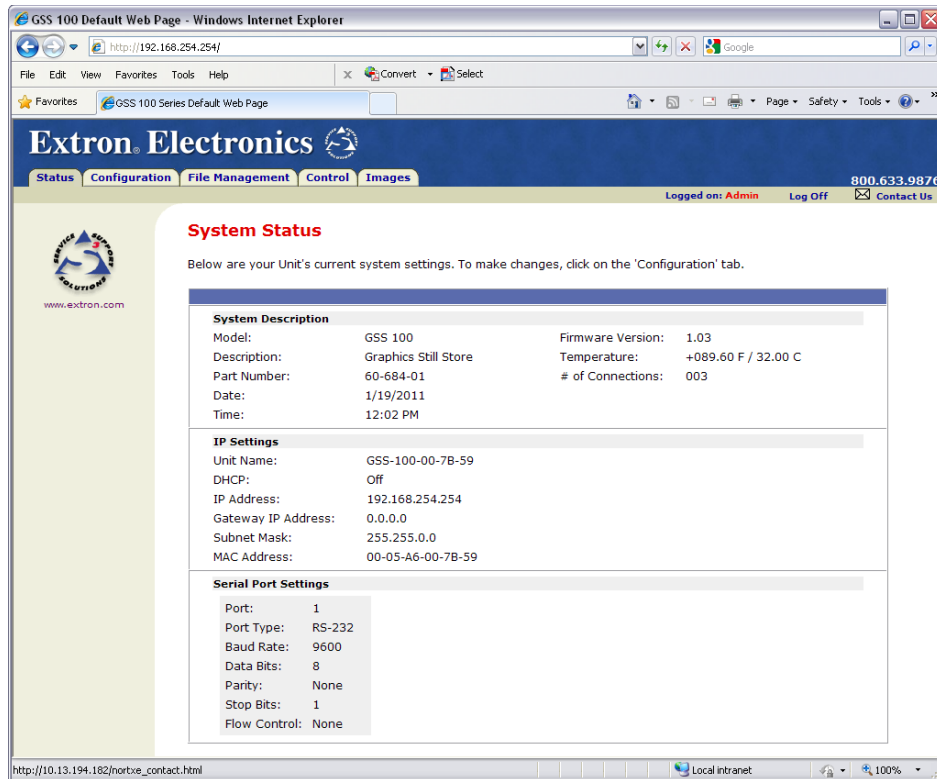

Figure 19. System Status Page
- **If neither of the above conditions is true**, the GSS 100 downloads the factory-installed default startup page, "nortxe_index.html" (see figure 19 on the next page), also known as the System Status page.
The **System Status** page (see figure 19) provides an overall view of the status of the GSS 100, including various IP addresses, and the status of the RS-232 port. The **System Status** page is the default page that the GSS 100 downloads when you connect to the GSS 100. Access the **System Status** page from other pages by clicking the **Status** tab.